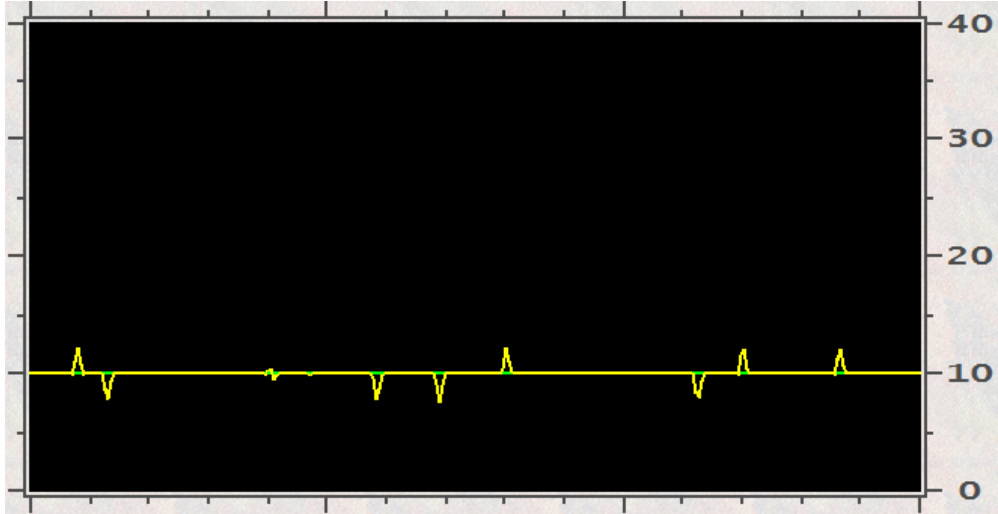

Figure 1 – Ideal Doppler Sensitivity
- 7.2.4. Adjust **P4** and **P5** to get a waveform as shown in **Figure 1**. Ticks above and below baseline must be evenly balanced.